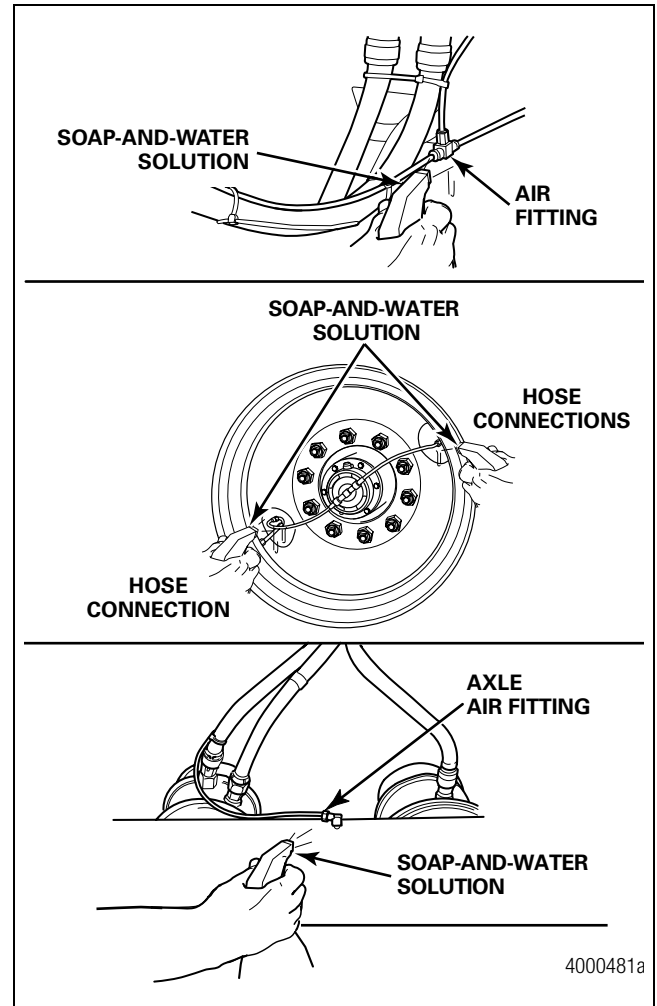
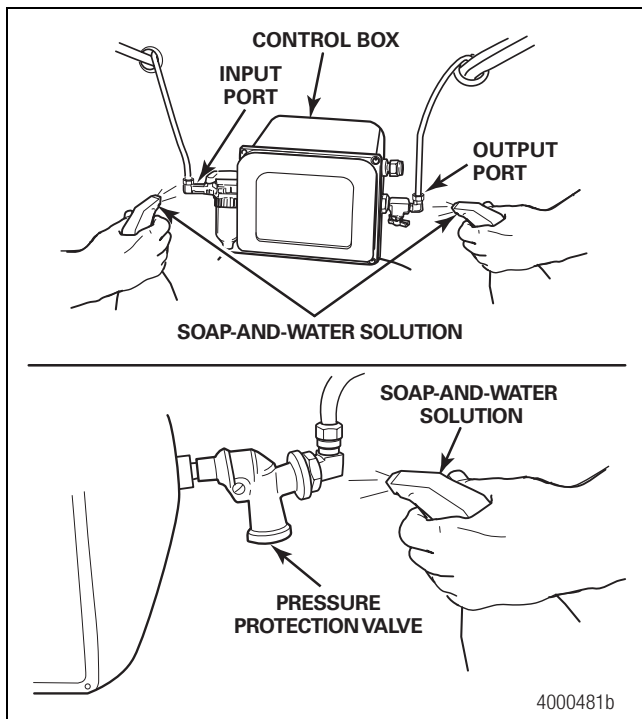

Figure 3.18
Figure 3.19
1. Test the tire inflation system for air leaks. Spray a soap-and-water solution on all fittings and hose connections to check for leaks. Figure 3.18 and Figure 3.19.